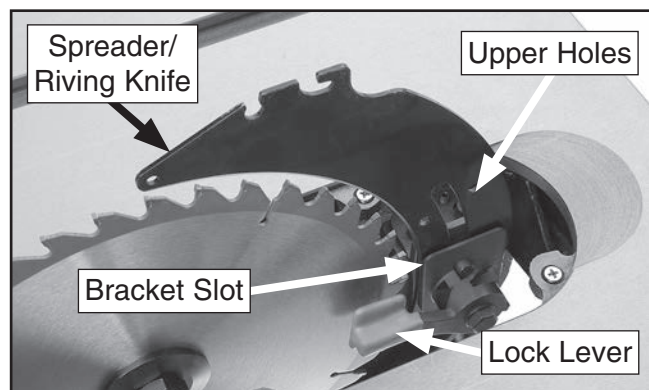

Figure 54. Lock lever used to secure spreader.
4. Insert *upper* set of holes on spreader/riving knife into bracket slot and tighten lock lever to secure spreader/riving knife (see **Figure 54**).